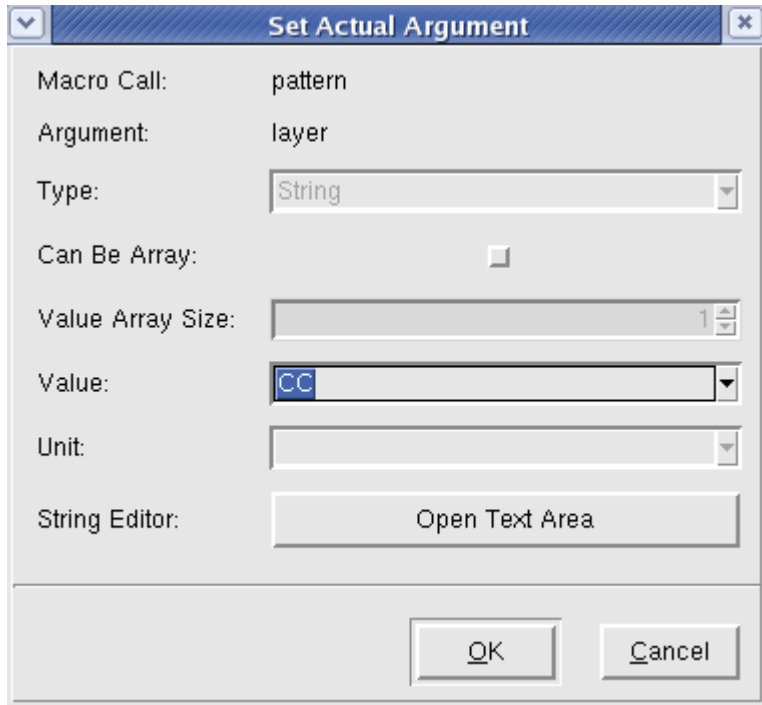
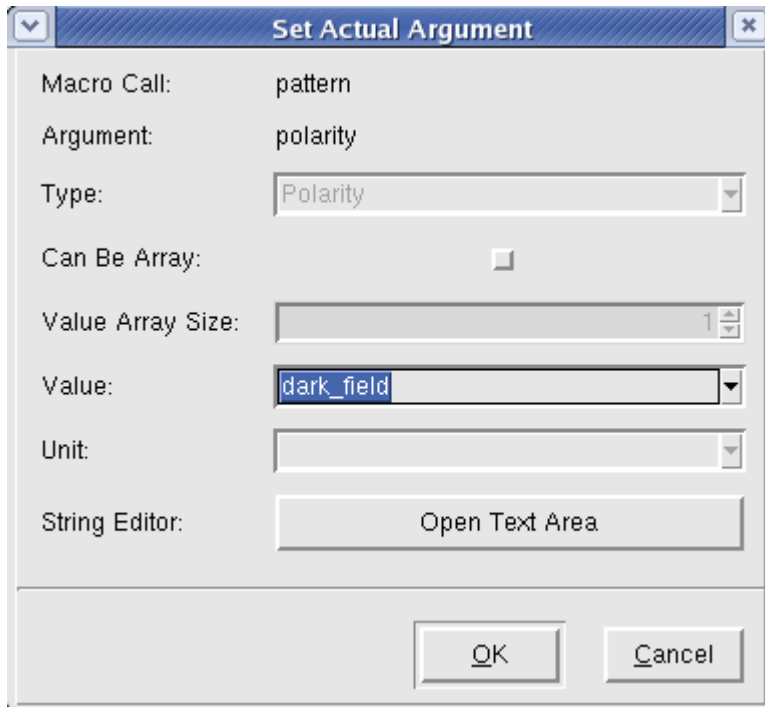
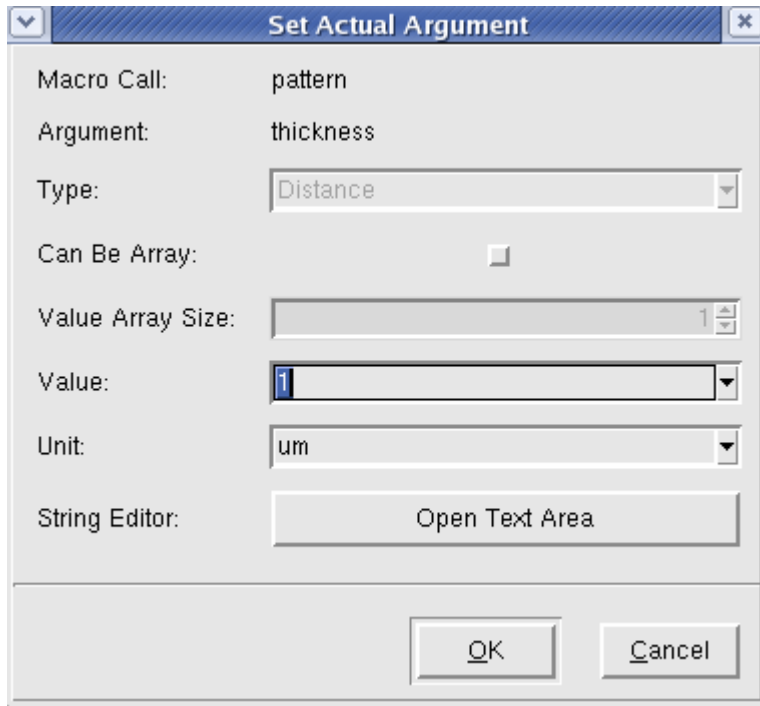

Figure 69: Setting the Layer argument of a pattern step.
Figure 70: Setting the polarity of the mask step.
Figure 71: Setting the thickness of the PR.
13. Add a pattern step the the process area after the anneal step. Set the Layer to CC (Figure 69), the polarity to dark_field(Figure 70), and the thickness to 1 um(Figure 71).